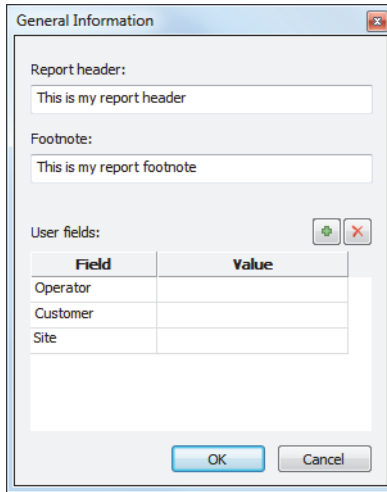

Figure 6-6 Example of the General Information dialog box
2. In the **Indication Table** dialog box, click **General info** to open the **General Information** dialog box, and customize the HTML report (Figure 6-6 on page 180):